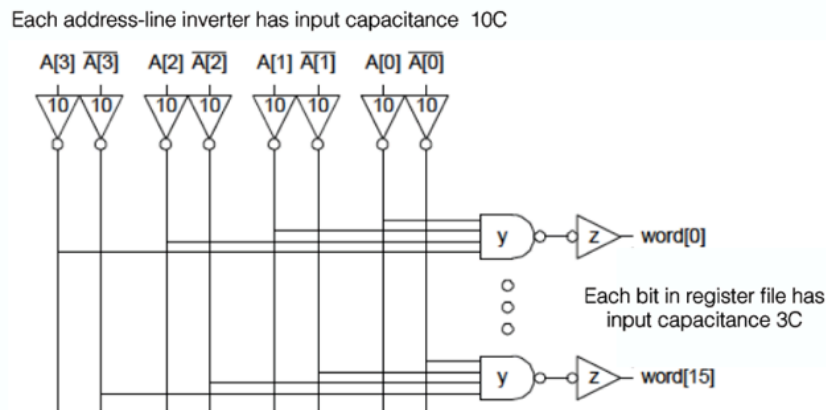

Figure 6.4: Detail of 4-to-16 decoder for addressing register file.
In this problem your task is to size the decoder circuitry shown in detail in Figure 6.4.
- How should the 4-input nand gate (labelled y in Figure 6.4) and inverter (labelled z in Figure 6.4) be sized for minimum delay with the assumptions given in Figure 6.4? Assume that an nMOS transistor has twice the current of a pMOS transistor of the same width. (5 p)